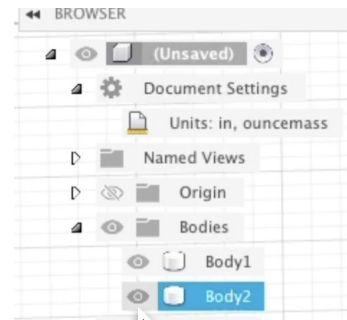

Figure 1.4
1. Hide all but one body in the Browser by clicking the **eye icon** next to each body you want to hide (see Figure 1.4). Once only the desired body is visible, complete the steps from the previous page.